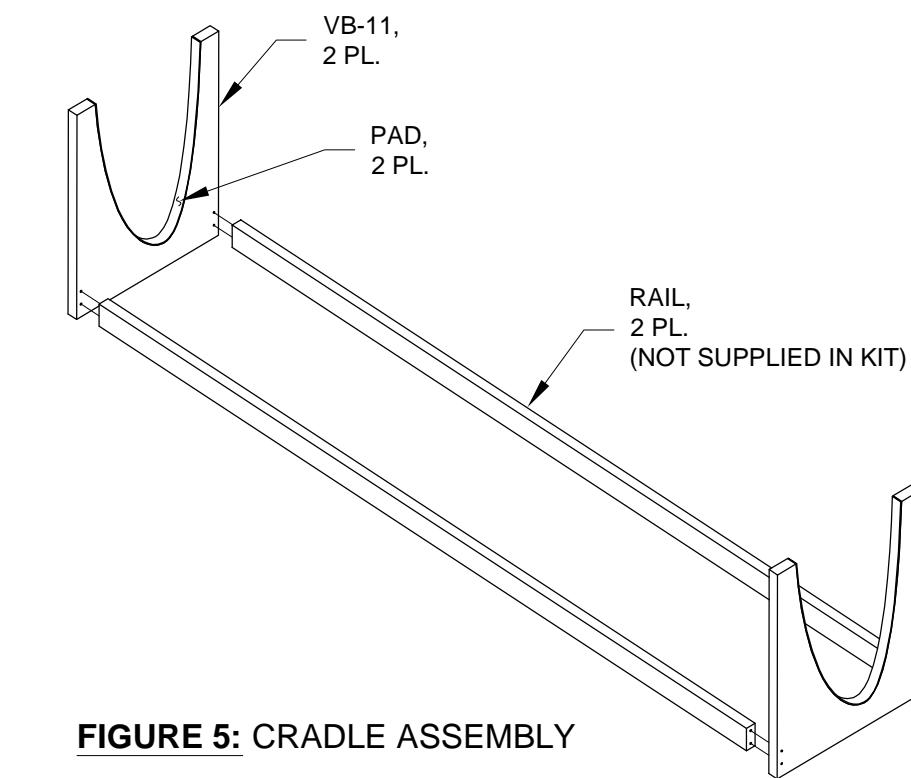

FIGURE 5: CRADLE ASSEMBLY
Step 4: Create a cradle to hold both the leading edge and tank assemblies during assembly. First remove the material indicated by the hatched area in Figure 4 from the VB-11 Wing Leading Edge Vee Blocks. **Save** the removed material, it will be used later to create the flap cradle. Make rails 57 1/2 inches long to interconnect the vee blocks. Assemble the cradle as shown in Figure 5. Line the inside face of the cradle with duct tape or weather strip as shown in Figure 5.